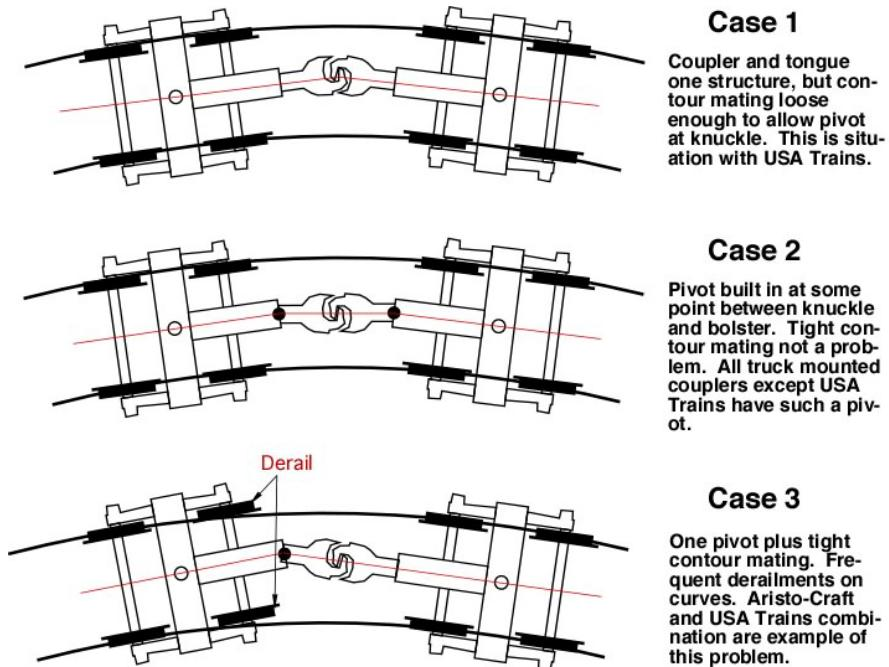

Fig 2. Derailment Caused by Rigid Coupler Mating
- One truck or piece of rolling stock will pull the truck or rolling stock to which it is coupled off the track on a curve. This problem is primarily associated with truck-mounted couplers. Figure 2 illustrates the problem.